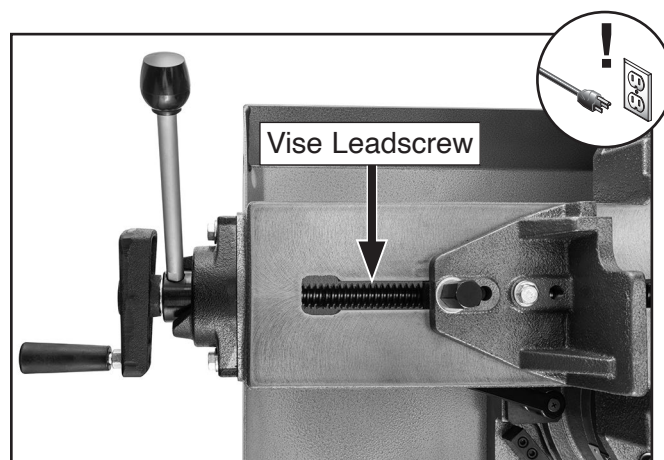

Figure 72. Location of vise leadscrew.
2. Use mineral spirits and brush to clean existing lubricant and debris off of vise leadscrew shown in **Figure 72**, then allow leadscrew to dry.